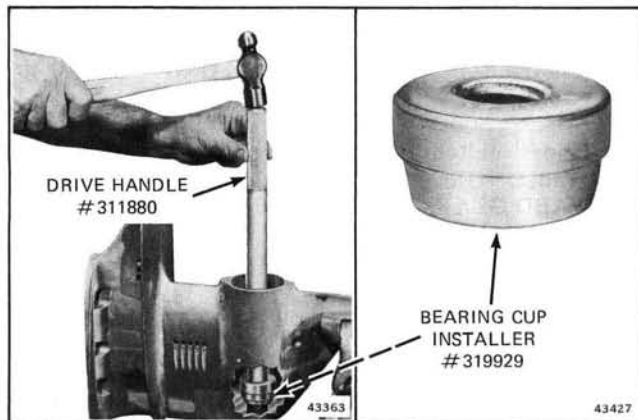

Figure 6-41. Installing Forward Bearing Cup
2. If removed, install forward bearing cup using bearing cup installer (OMC Special Tool #319929) and drive handle (OMC Special Tool #311880). See Figure 6-41.